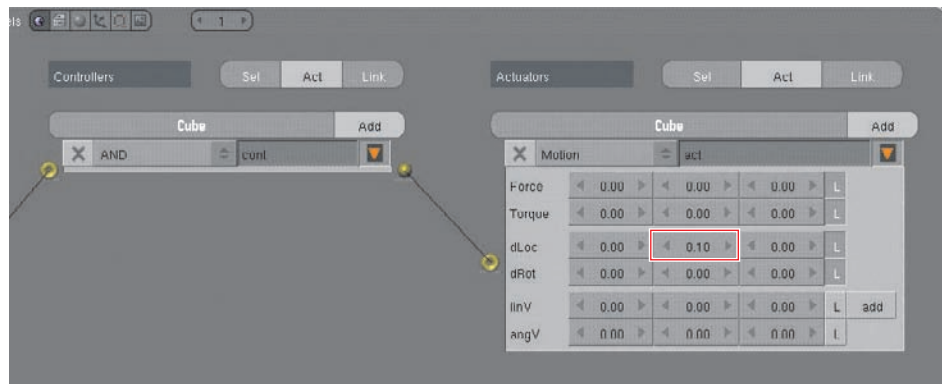

Figure 6.13 Adding an actuator
9. Add an actuator by connecting the controller and the actuator in the same way you connected the sensor and the controller (see Figure 6.13). Set the value for the middle column of the dLoc row to 0.10.